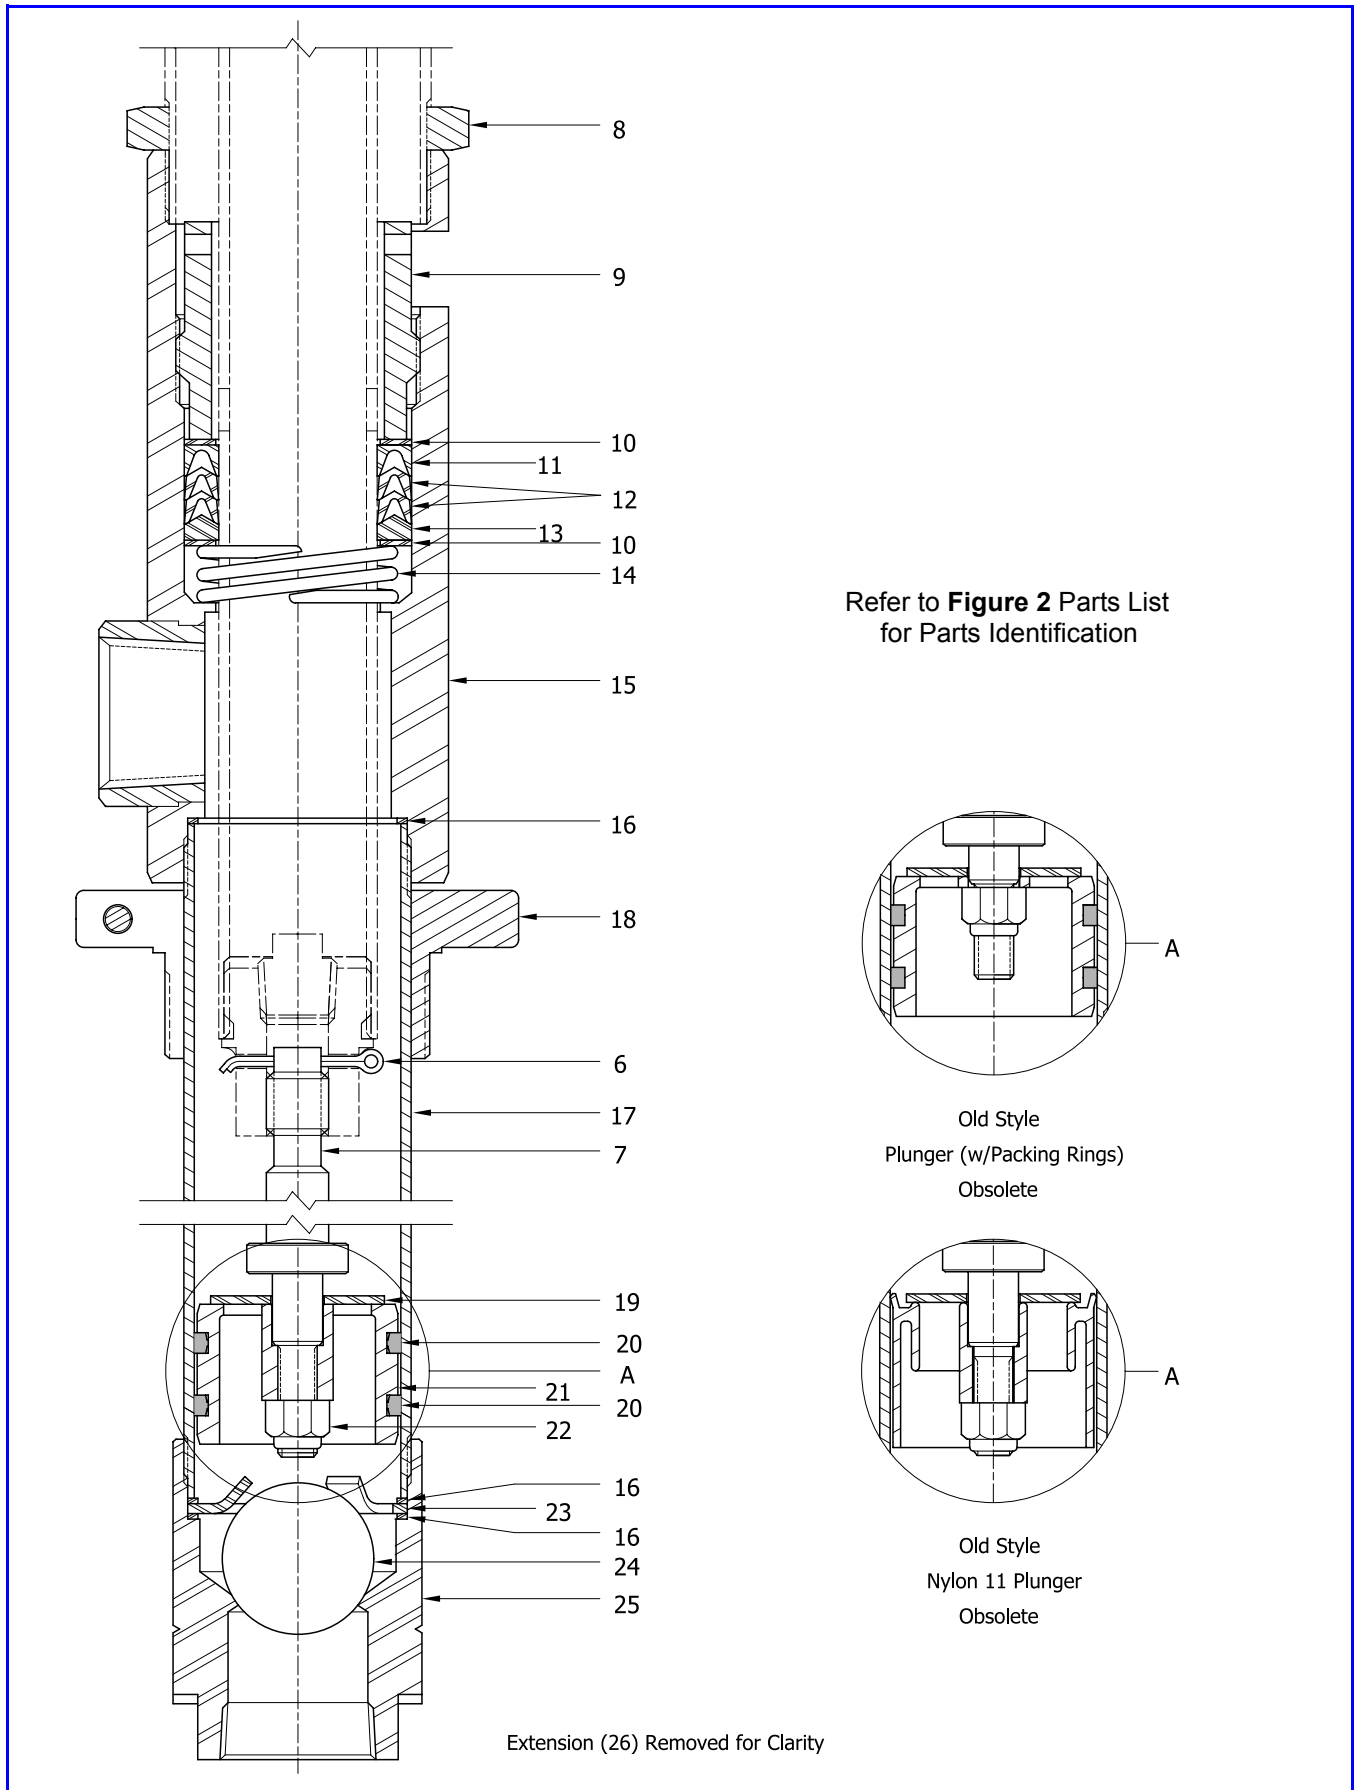

Figure 4 Pump Tube Assembly - Section View
*IMPORTANT: Replace a worn old style nylon 11 Plunger with the current Plunger and Ring assembly (See **Figure 4**). If the old style Plunger is desired, order part 337693.*